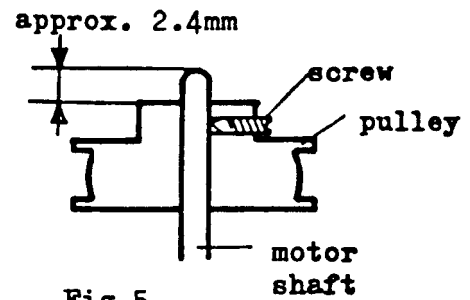

Fig.5
- (3) After replacement of motor ass'y, adjust the pulley position of new motor as shown in Fig.5 then check the position of driving belt to insure the following: